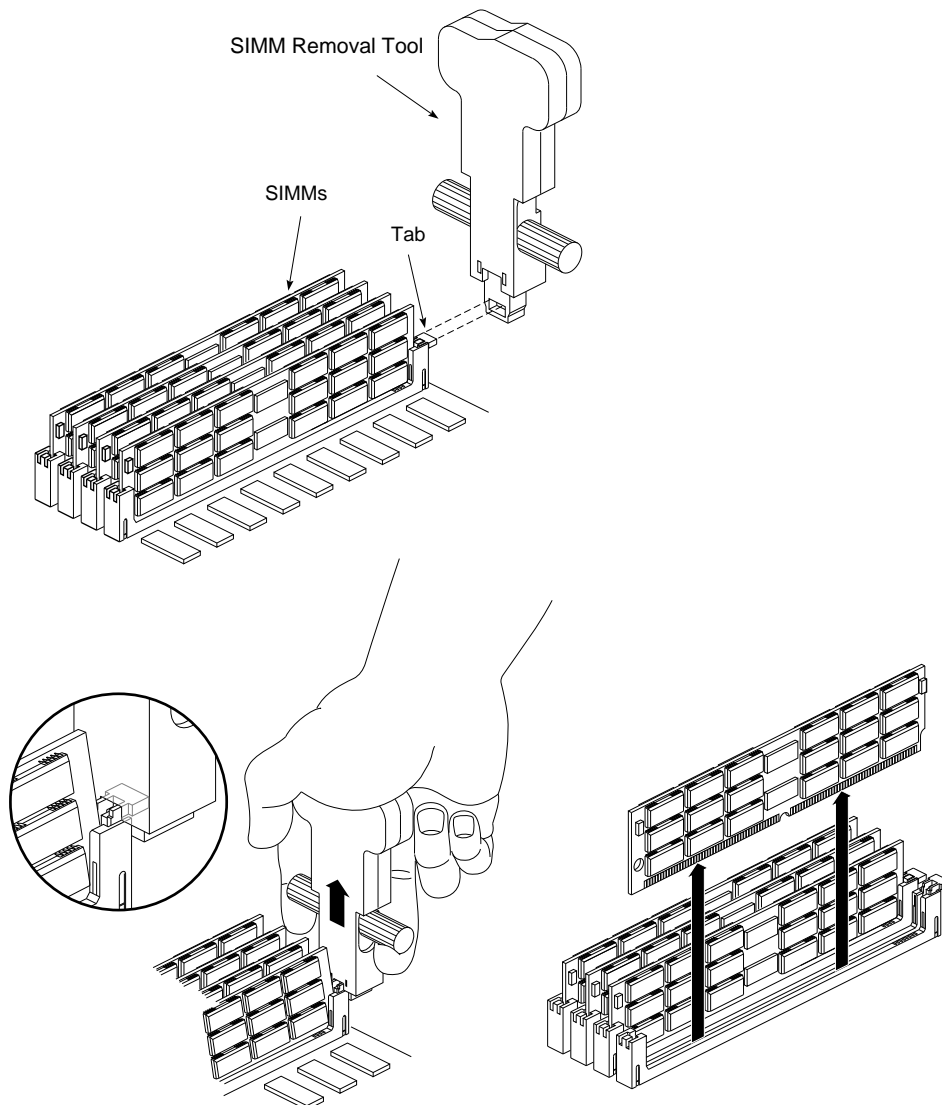

Figure 5-66 Removing SIMMs from an MC3 Board
Use the SIMM extraction tool (see Figure 5-66) to remove SIMMs from the MC3 board.
1. Place the extraction tool over the SIMM ejector tab as shown in Figure 5-66.